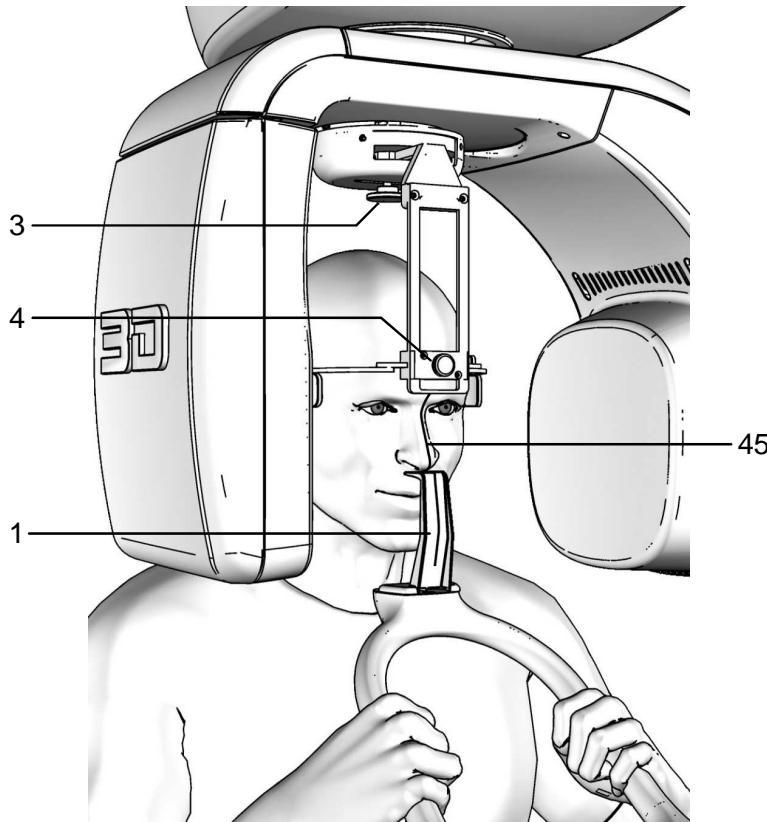

Figure 16 – TMJ closed mouth positioning
4. Verify that the temple clamp device is in the central position (Figure 10), and if necessary move it using the appropriate control on the top of the support (Figure 16).
5. Place the patient in temple clamp by placing the chin on the surface of the relevant support (Figure 16); the hands should rest on the front handgrips.
8. Press the key "Centring devices ON" (14) .
Using the laser of the midsagittal plane as a reference only, place the patient's head so that the beam falls on the corresponding anatomical reference (Figure 16).
9. Place the temple clamp in contact with the patient's head by means of the appropriate knob (Figure 16).
10. Press the key "Patient Entrance" (7)  to confirm the